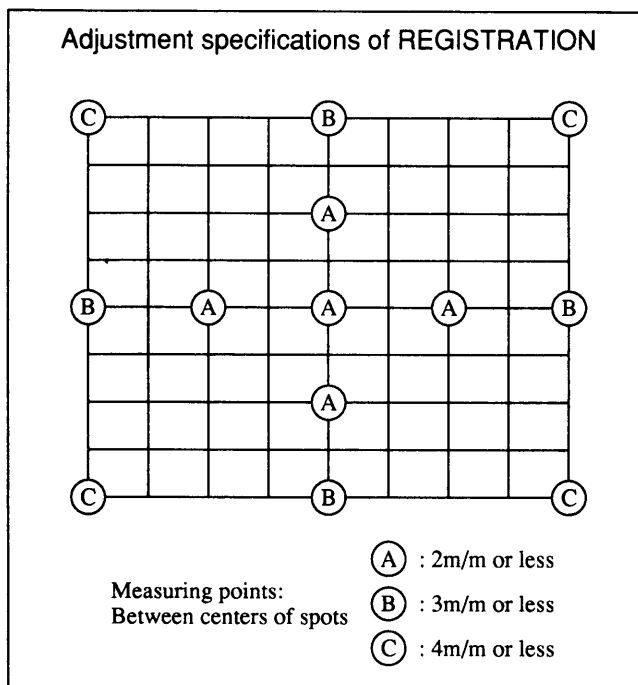

Figure 13
10. Enter the each mode of LIN, SKEW, BOW, KEY, PIN and ZONE (as to ZONE, adjust No. 2 to 9 blocks only out of 21 blocks), and adjust them until registration satisfies the specification (as shown in Figure 13) using the arrow keys.